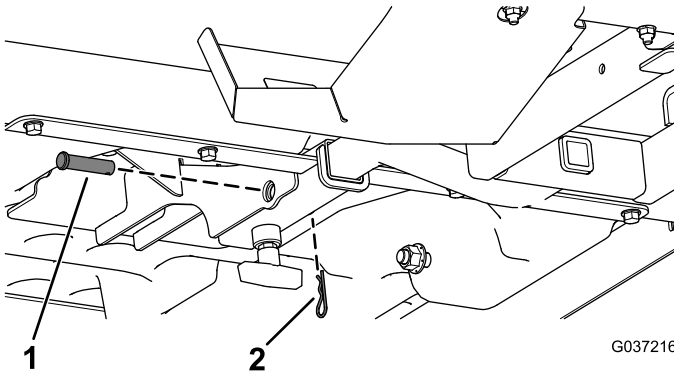

Figure 8
7. Secure the assembled spreader mount to the receiver tube using the clevis pin and hairpin cotter (Figure 8).